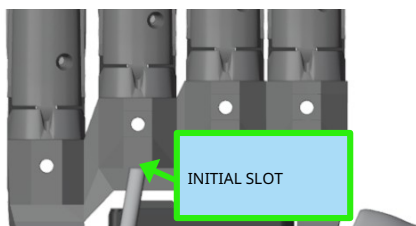

Figure 5.34: Tube insertion into the initial slot (rear view)
1. Insert one end of the PTFE tube into the initial slot (on the back of the skeleton) of the extension tendon (figure 5.34)